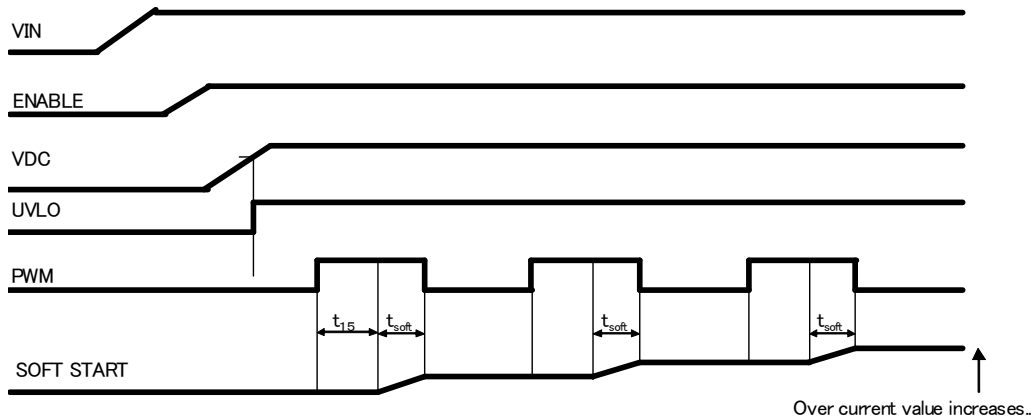

Figure 25. Soft start
- Regulator (VDC) operates after ENABLE=H. Inside circuit operates after releasing UVLO. When IC boosts after releasing UVLO, soft start function operates. (Refer to Figure 15, 9P). Soft start circuit needs  $t_{15}$  (more than 15 $\mu$ s) as Figure 25. shows. Soft start operates for  $t_{soft}$  time. Please make H width of PWM more than 15 $\mu$ s until soft start finishes.